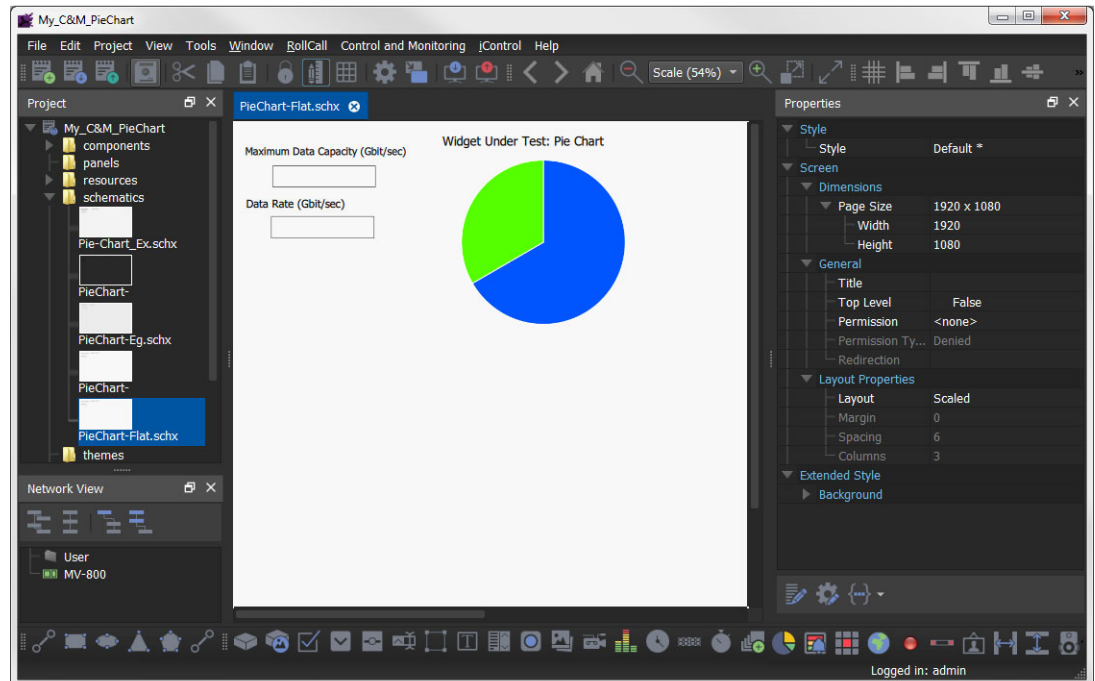

Fig. 3-6: Screen with a Pie Chart and two Text Edit Widgets
- 1 Generate a screen schematic and drag a **Pie Chart** and two **Text Edit** widgets onto the screen. See Figure 3-6.